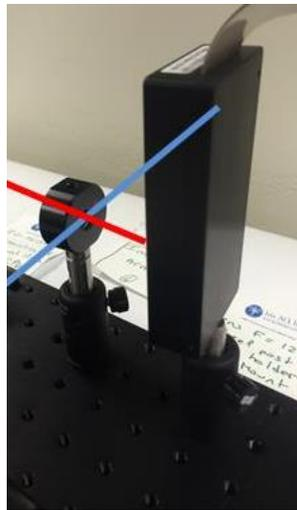

Figure 21: The plane of the lens surface (represented in blue, above) should be perpendicular with the path of the laser beam (represented in red, above)
- Make sure the lens ($f=+125$ mm) used to image the PSF is perpendicular to the beam's optical axis. **See Figure 21.**